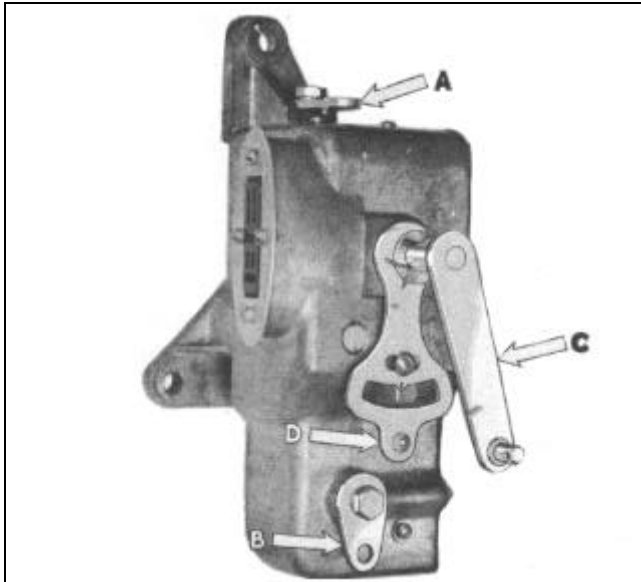

FIGURE 7
This switch box, Figure 7, bolted to the power unit bracket on the left side of the engine, contains the mechanically operated switches used to control the Drive-Master.
(A) THE TRANSFER SWITCH, Figure 7, is located at the top of the transmission switch and is operated by a non-adjustable link connected to the transmission cross shift selector lever.